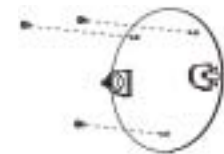

Figure 5. Place the back plate to the wall
- Step 3. Using the screws provided secure the back plate to the wall (Figure 5).